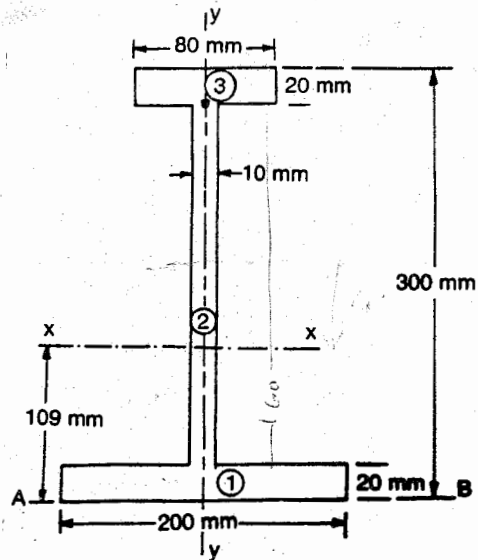

Fig. 6.13
1. Determine the moment of inertia of the Unsymmetrical I section shown in fig. 6.13 about its centroidal axes.
Moment of inertia of the given section will be the sum of the *M.I* of the rectangular sections (1), (2) and (3) as shown in fig. 6.13